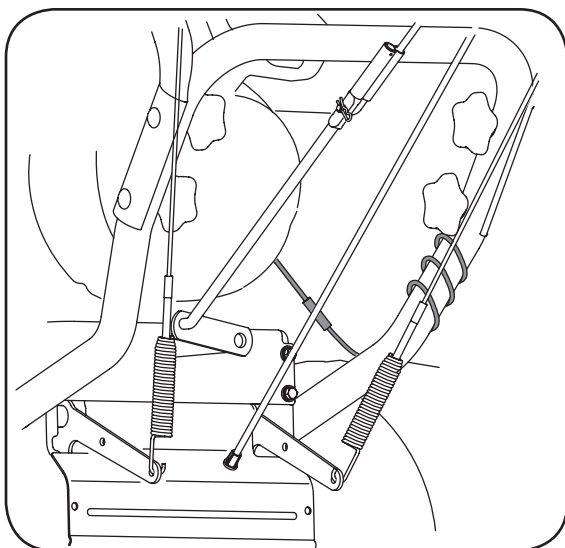

Figure 3-8
9. If not already done, wrap the wire of the head lamp wire harness down the right handle until the wire can be plugged into the engine alternator wire connector down on the engine. See Figure 3-8.